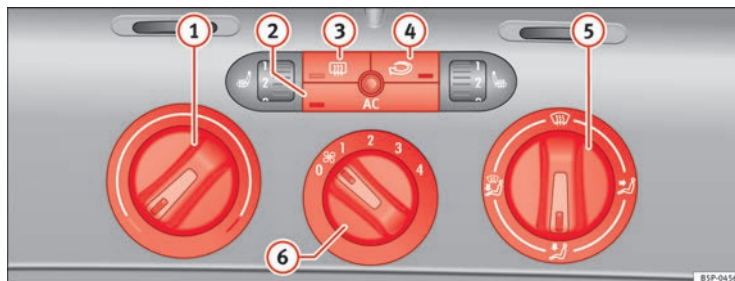

Fig. 127 On the dash panel: Climatic controls
- Turn the temperature selector ⇒ Fig. 127 ① clockwise to select the required temperature.